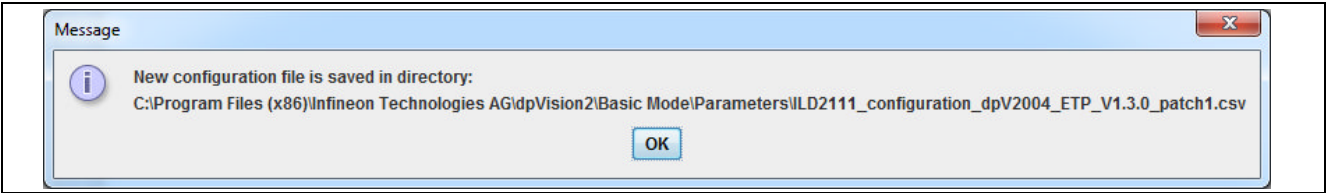

Figure 47 New csv Directory Path
2. Save the new configuration set with the changed parameter's value – see Figure 45 (the configuration set could be saved with a different name). The user can decide if either the existing csv file is to be rewritten or if a new csv file is to be stored with another name – see Figure 47. The new configuration file will be saved in the directory whose path is shown in the window message – see Figure 47.